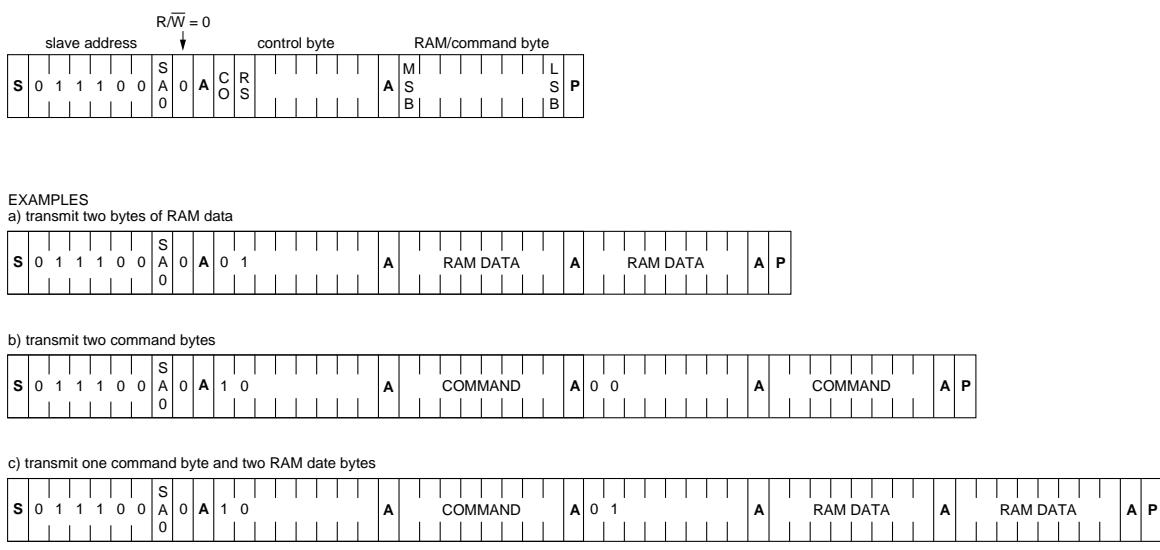

Fig 20 I²C-bus protocol
The I²C-bus protocol is shown in Figure 20. The sequence is initiated with a START condition (S) from the I²C-bus master which is followed by one of two possible PCF8533 slave addresses available. All PCF8533 whose SA0 inputs correspond to bit 0 of the slave address respond by asserting an acknowledge in parallel. This I²C-bus transfer is ignored by all PCF8533 whose SA0 inputs are set to the alternative level.